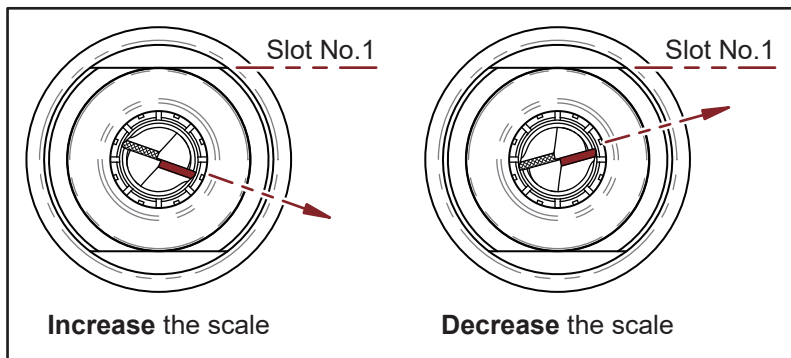

Fig. 8-4
- ✘ If it is not parallel, adjust the scale (Fig. 8-4) and reposition end mill.